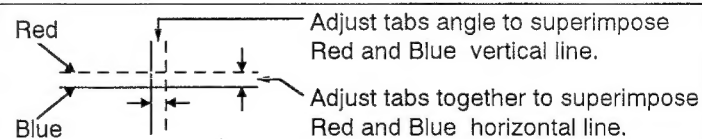

Figure 5 RED AND BLUE LINE MOVEMENT
2. Adjust the angle between the Tabs of the 4 Pole Magnet 1 and 2, and superimpose the Red and Blue vertical lines in the center area of the picture screen. Refer to figure 5.
3. Keeping the mutual angle of the Tabs of the 4 Pole Magnet turn them together to superimpose the Blue and Red horizontal lines in the center area of the picture screen. Refer to figure 5.